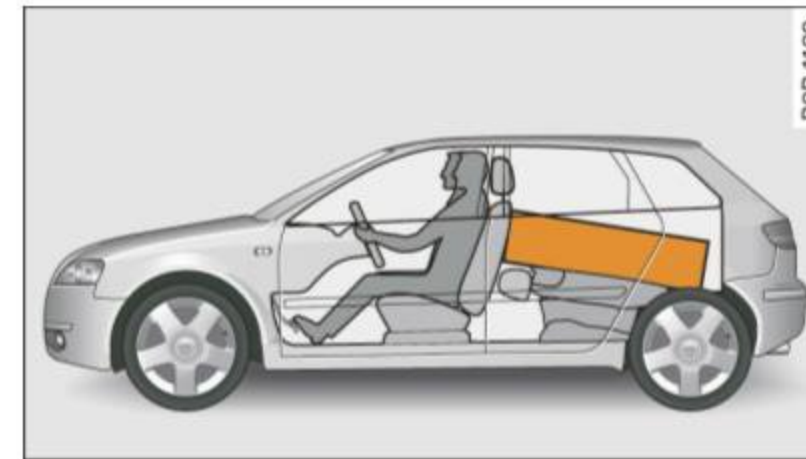

Fig. 146 Safe load positioning: heavy cargo positioned as far forward as possible.
- Always place and properly secure heavy items in the luggage compartment as far forward as possible ⇒ fig. 146.